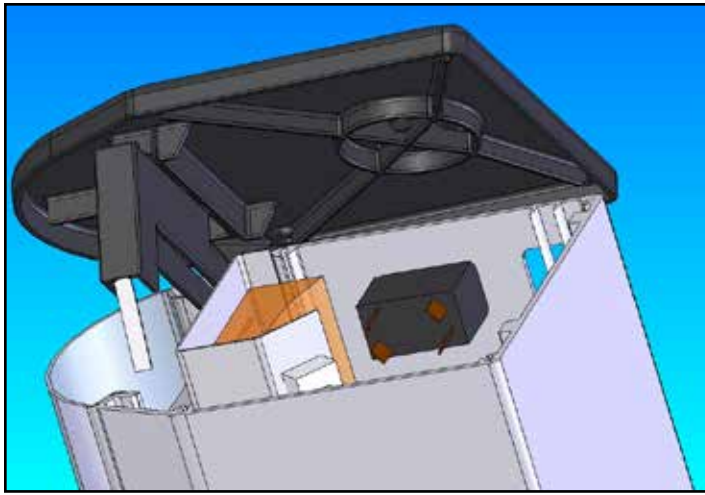

FIGURE 5 -Removing End Cap
- A. Disconnect the power to the unit; remove the intake grille by removing the (4) screws on one side of the unit. Pull the top of the end cap outward to release the filter tab to remove end cap. Slide the intake grille out of unit (See Figure 5). It is not recommended to remove the blower assembly from the cabinet. To clean the motor and blower wheels, with the filter and inlet screen removed, blow compressed air in the unit to remove loose dust and debris.